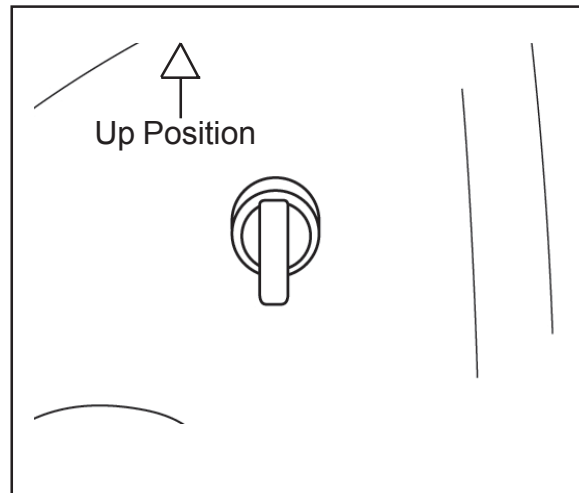

Fig. 6
8. Make sure both T-anchors are orientated in the up-down position. (Fig. 6)